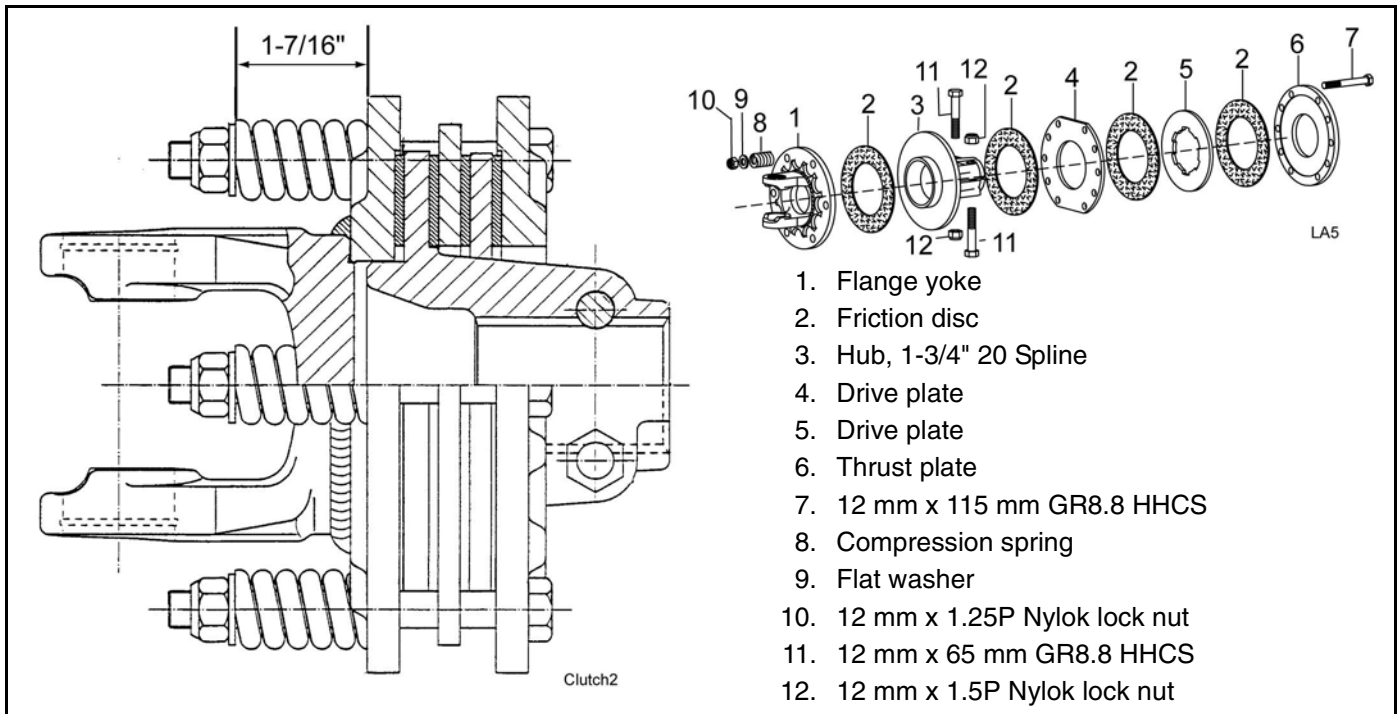

Figure 15. Slip Clutch Assembly BB840XP S/N 1127328 & Below
BB840XP S/N 1127328 & Below (Figure 15)
3. Loosen six 12 mm cap screws (7) to remove all tension from the compression springs (8).
4. Hold clutch hub (3) solid and turn shaft to make sure clutch slips.
5. If clutch does not slip freely, disassemble and clean the flange yoke (1), clutch hub (3), drive plate (4), drive plate (5), and thrust plate faces (6).
7. Compress each of the six compression springs (8) by tightening the six cap screws (7) and lock nuts (10). The compression springs should be
compressed to a height of 1-7/16", not including washer (9). The minimum spring height is 1.36". See Figure 15.
8. If a clutch continues to slip when the springs are compressed to 1.36", check friction discs (2) for excessive wear. Discs are 1/8" when new. Replace discs after 1/16" wear.